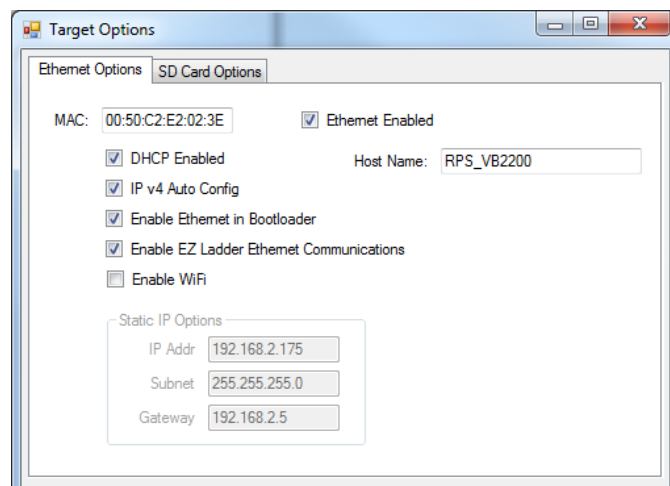

Figure 2-15 - Ethernet / Wi-Fi Options
8. Click the **TARGET OPTIONS** button. The Target Options window will open. There will be two tabs in this window. Click the **ETHERNET OPTIONS** tab. See Figure 2-15.